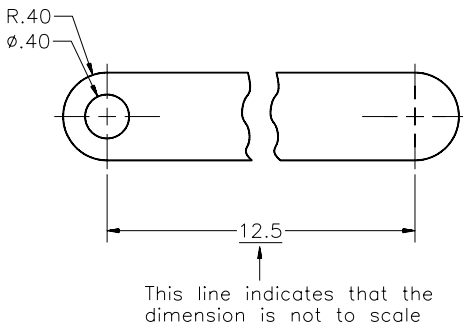

Figure 22-45 Specifying dimensions that are not in scale
20. A dimension that is not in scale should be indicated by drawing a straight line under the dimension text (Figure 22-45). This line can be drawn by using the **DDEDIT** command. If you invoke this command, AutoCAD will prompt you to select an annotative object. Select the object; the **In-Place Text Editor** will be displayed and a new **Multiline Text** tab will be added to the **Ribbon**. Select the text (`< >`), and then choose **Multiline Text > Formatting > U** from the **Ribbon** to underline the text.